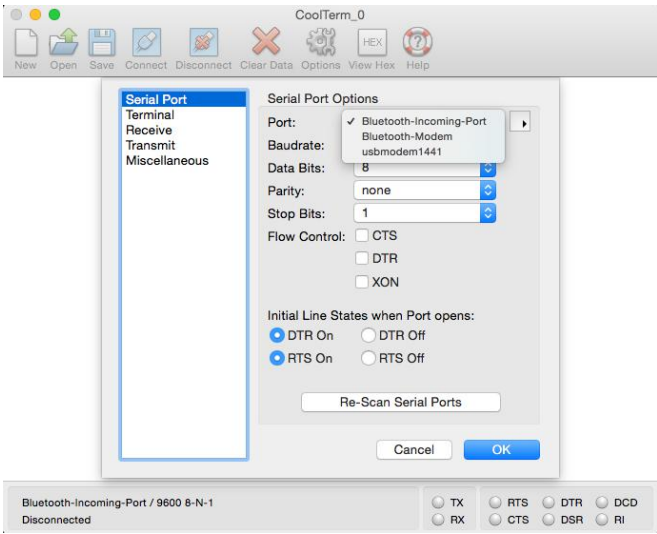

Figure 4
- 1) The setup procedure is the same as that in section 5.1.2. The serial port to be selected is the "usbmodem 1441" port (Figure 4).